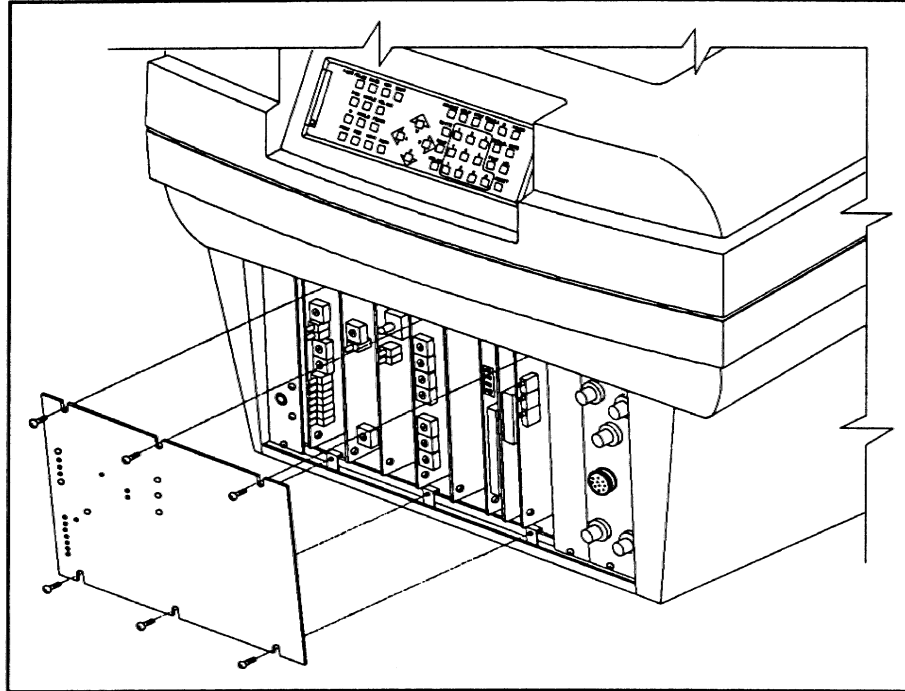

FIGURE 5-9. Back Panel Removal
d) Remove the back panel as shown in Figure 5-9.